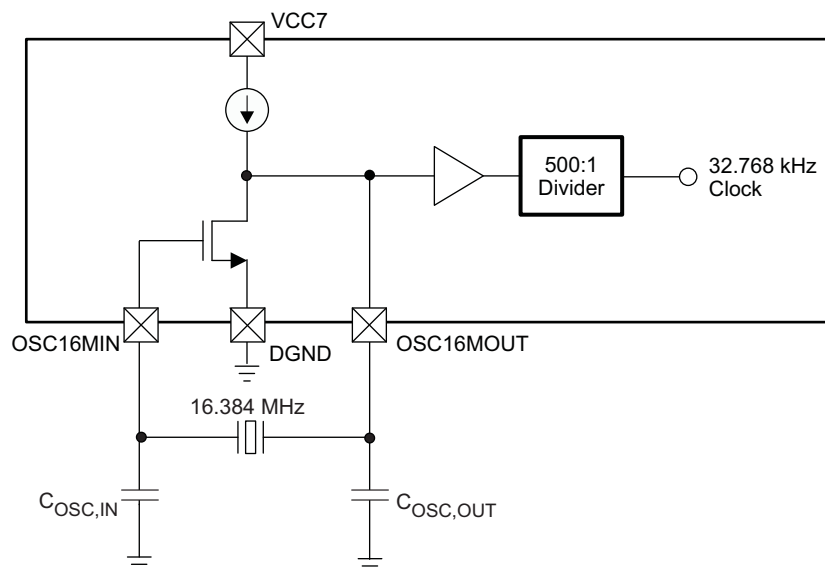

Figure 19. 16-MHz Crystal Oscillator
- **Crystal Oscillator-** To use the crystal oscillator, a 16.384-MHz crystal should be placed between the OSC16MIN and OSC16MOUT pins and the OSCEXT32K pin should be grounded. The 32-kHz clock is produced by dividing the crystal oscillator output by 500. A higher frequency crystal is used to accelerate the start-up time of the device. An essential schematic of the oscillator is shown in Figure 19.